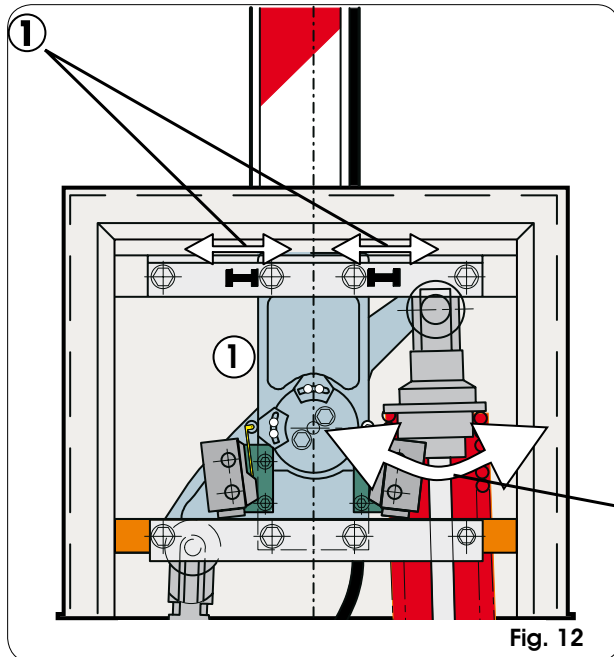

Fig. 12
- 5) Adjust the opening and closing travel limit mechanical stops as in fig.12 ref. ① and verify beam balancing following the instructions in paragraph 5.1.
- 2) If the barrier tends to close, turn the spring pre-loading ring-nut (Fig. 12 ref. ②) clockwise; if it tends to open, turn it anti-clockwise.